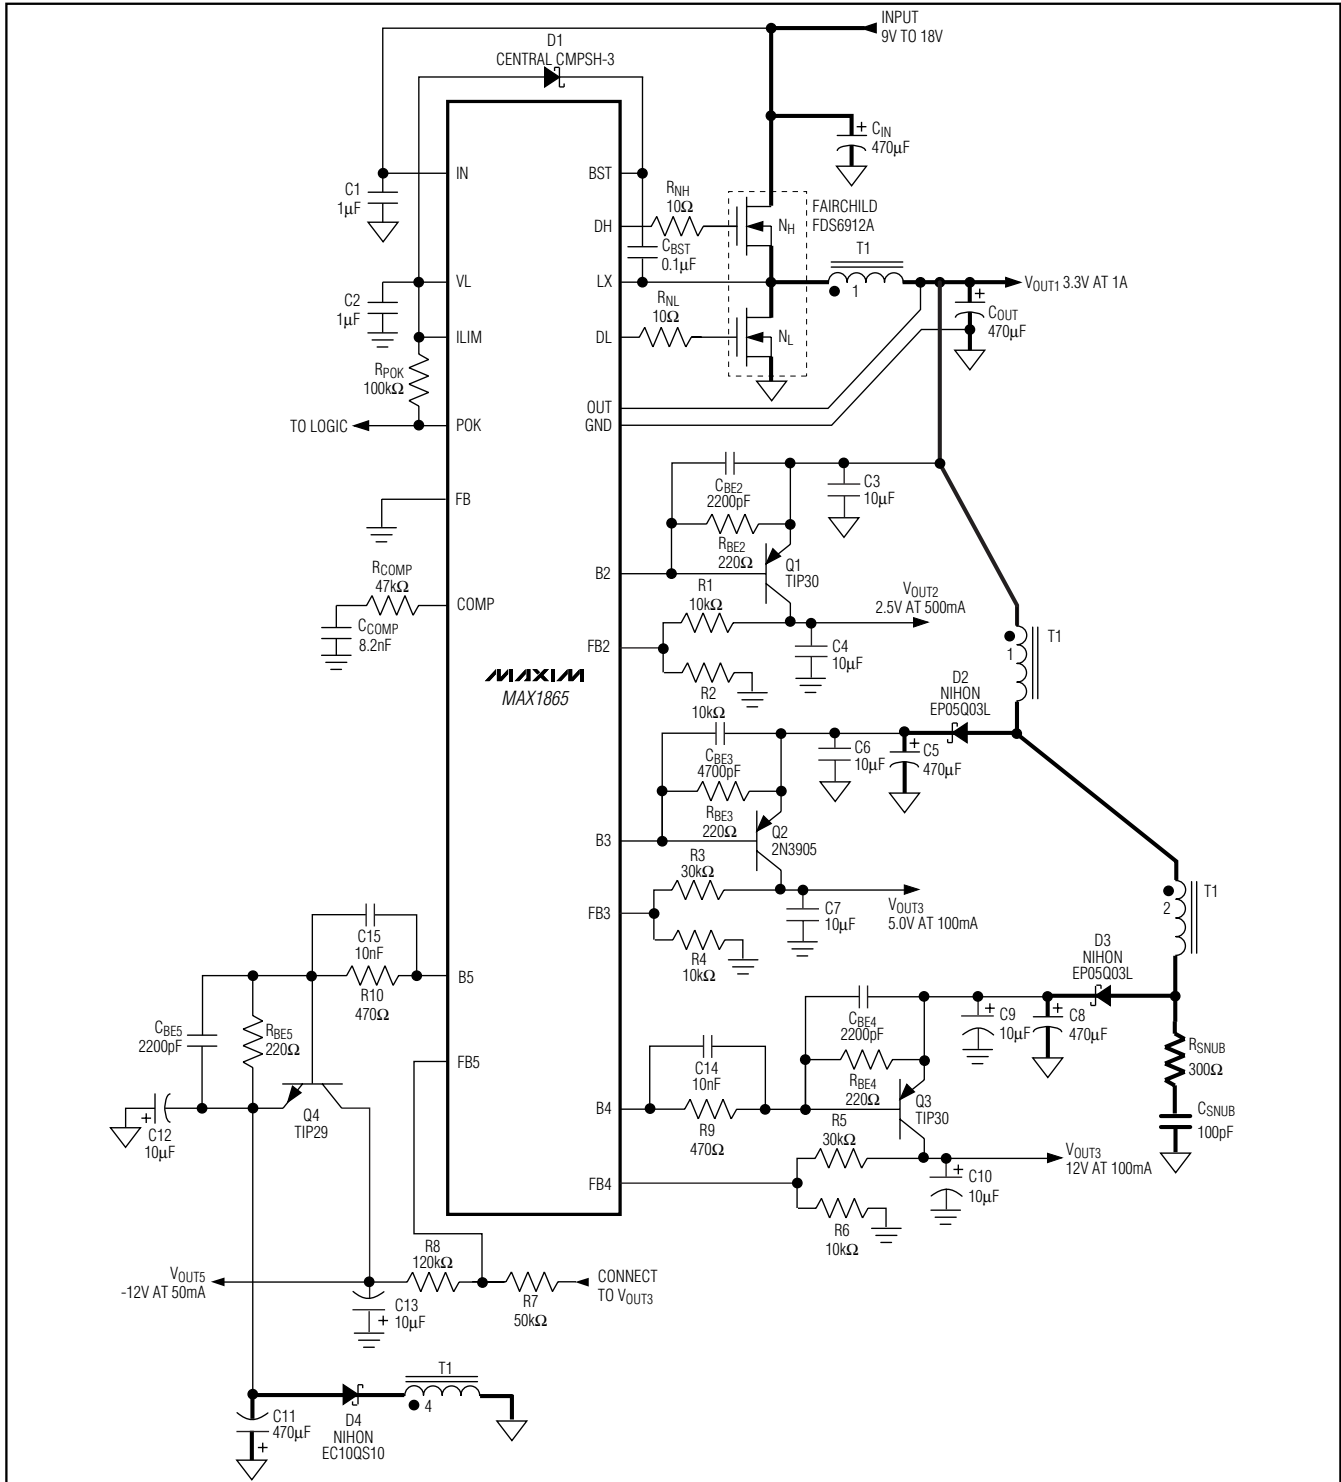

Figure 6. Standard MAX1865 Application Circuit
The MAX1864/MAX1865's positive linear regulator output voltages are set by connecting a voltage-divider from the output to FB_+ to GND (Figure 6). Select R_4 in the $5k\Omega$ to $50k\Omega$ range. Calculate R_3 with the following equation:
The MAX1865's negative output voltage is set by connecting a voltage-divider from the output to FB_5 to a positive voltage reference (Figure 6). Select R_6 in the $5k\Omega$ to $50k\Omega$ range. Calculate R_5 with the following equation:
In systems where the step-down controller's output is not the highest voltage, a transformer may be used to provide additional postregulated, high-voltage outputs. The transformer generates unregulated, high-voltage supplies that power the positive and negative linear regulators. These unregulated supply voltages must be high enough to keep the pass transistors from saturating. For positive output voltages, connect the transformer as shown in figure 6 where the minimum turns ratio (N) is determined by:
only), connect the transformer as shown in Figure 6, where the minimum turns ratio is determined by:
The MAX1864/MAX1865 use a current-mode control scheme that senses the current across the high-side MOSFET (NH). Immediately after the high-side MOSFET has turned on, the MAX1864/MAX1865 use a 60ns current-sense blanking period to minimize noise sensitivity. When the MOSFET turns on, however, the transformer's secondary inductance and the diode's parasitic capacitance form a resonant circuit that causes ringing. Reflected back through the transformer to the primary side, these oscillations across the high-side MOSFET may last longer than the blanking period. A series RC snubber circuit at the diode (Figure 6) increases the damping factor, allowing the ringing to settle quickly. Applications with multiple transformer windings require only one snubber circuit on the highest output voltage. Applications with low turn ratios (1:1), such as the MAX1864 typical application circuit (Figure 1), may not require a snubber circuit.
For the EC10QS10 Nihon diode used in figure 6, the capacitance is roughly 15pF. The output snubber must only dampen the ringing, so the initial turn-on spike that occurs during the blanking period remains preset. A 100pF capacitor works well in most applications; larger capacitance values require more charge, thereby increasing the power dissipation.
The snubber's time constant (t_{SNUB}) must be smaller than the 100ns blanking time. A typical RC time constant of approximately 30ns was chosen for Figure 6: